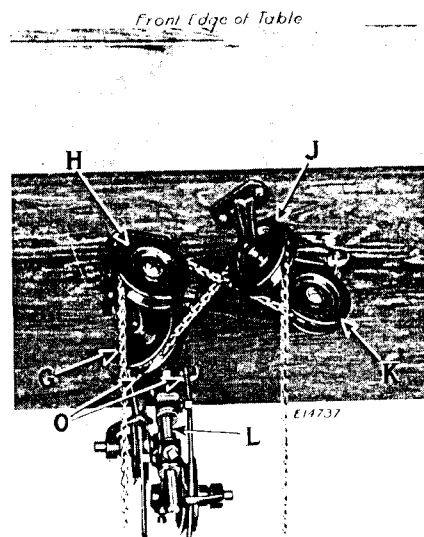
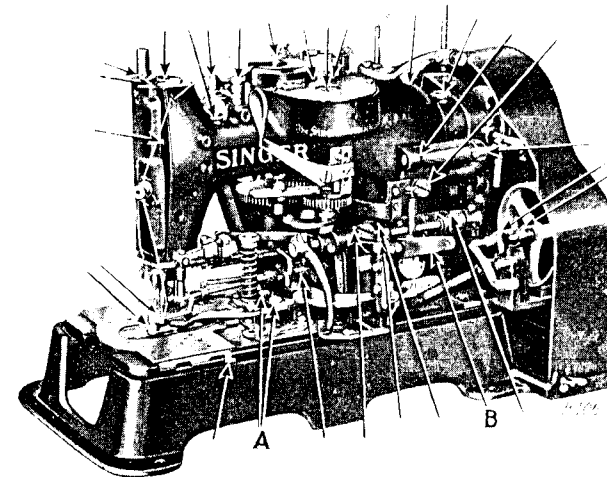
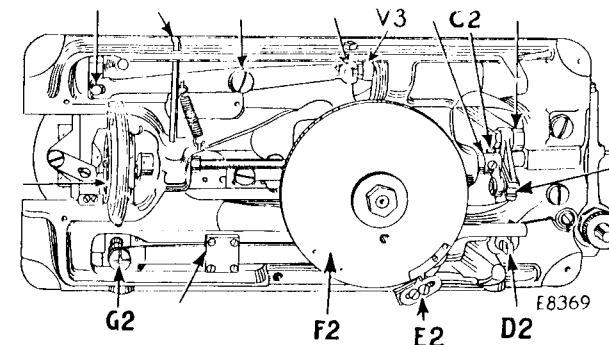

Fig. 5. Underside of Power Table.
Fig. 7. Oiling Points at the Right of the Machine Also Adjustments on the Machine
Fig. 8. Oiling Points in the Base of the Machine Also Adjustments on the Machine
One hole should be bored for the chain to connect with the lever (B, Fig. 7) and another hole for the chain to connect with the starting lever (D2, Fig. 8).
There are four treadle chain pulleys (G, H, J and K, Fig. 5), each consisting of a bracket and a single pulley. Fasten one of these pulleys (K, Fig. 5) to the underside of the table directly below the clamp lifting lever (B, Fig. 7) and in line with the chain adjusting slide on the left hand treadle. Fasten the second pulley (H) to the underside of the table directly over the chain adjusting slide and in line with the first pulley (K). Fasten the pulley (G, Fig. 5) to the underside of the table directly below the starting lever (D2, Fig. 8) and in line with the chain adjusting slide on the right hand treadle. Fasten the fourth pulley (J, Fig. 5) to the underside of the table directly over the chain adjusting slide on the right hand treadle and in line with the pulley (G).
Pass one chain from the left treadle straight up and over the pulley (H) and under the pulley (K), then up through the hole in the table and fasten to the clamp lifting lever (B, Fig. 7). Pass the second chain from the right treadle straight up and over the pulley (J) and under the pulley (G), then up through the hole in the table and fasten to the starting lever (D2, Fig. 8).
Two belt holes (O, Fig. 5) should be bored in the table directly below the machine driving pulley according to the location shown by the blueprint furnished with the machine and the belt idler (L, Fig. 5) mounted on the underside of the table directly below these two holes (O). The belt should be applied around the pulley on the shaft, around the idlers, up through the holes (O) in the table and around the pulley on the machine.
the places designated by the unmarked arrows in Figs. 7, 8, 9, 22 and 25. When the machine is in continuous use, it should be oiled regularly to ensure easy running and prevent unnecessary wear of the parts which are in movable contact.